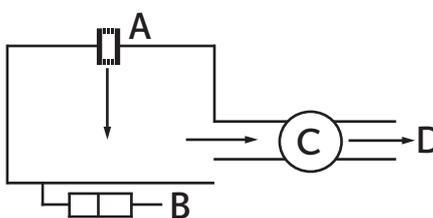

Figure 4: Test chamber. A – ventilation opening; B – anemometer; C – flow meter; D – airflow to fan²
The effective area, A_{eff} , for a specific ventilation opening is measured using a standard test rig (see Figure 4) described by EN13141-1. It comprises a sealed chamber to which an opening is attached, a fan, a long duct and an anemometer. The A_{eff} is measured under still external air conditions with uniform density so that the airflow through the opening is exclusively generated by a fan. The flow rate, Q , is systematically varied and ΔP is recorded at each interval. A_{eff} is determined by regression using Equations (1) and (2).